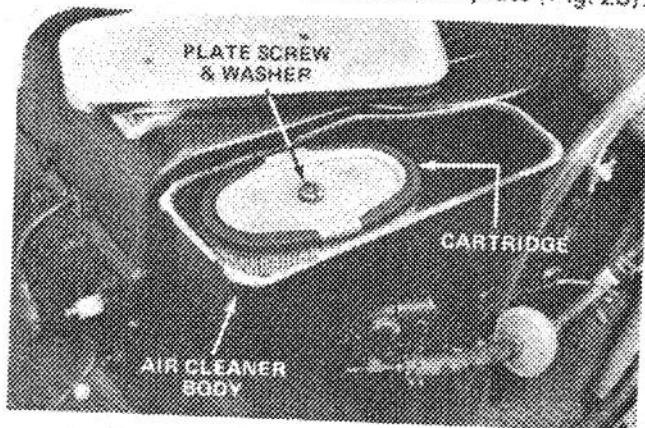

Figure 23
3. Remove plate screw, washer and plate (Fig. 23).